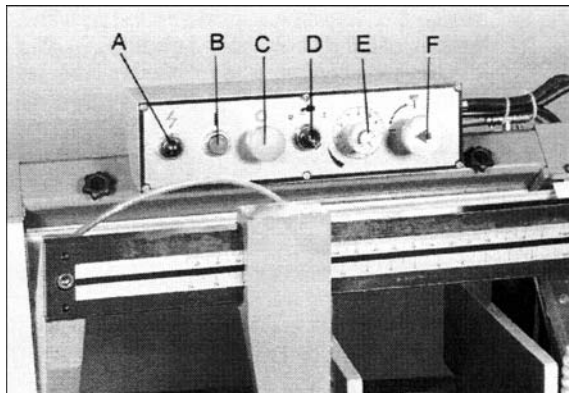

Figure 5
Refer to Figure 5.
2. Turn on hydraulic valve (F, Figure 5).
3. Turn cutting pressure control valve (E, Figure 5) counterclockwise until it stops.